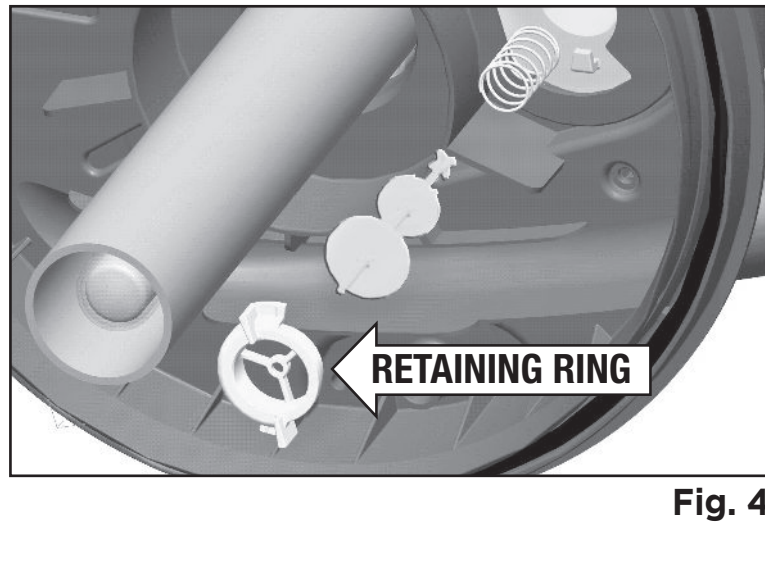
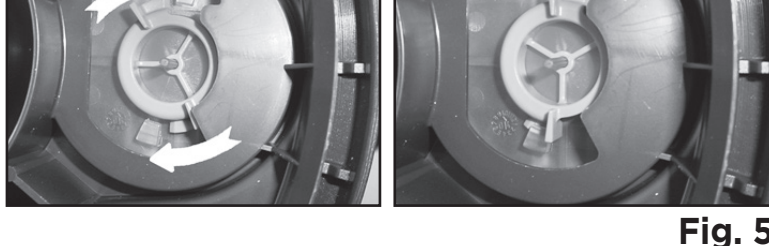

Fig. 4
Fig. 5
1. Switch off the UVC bulb (B) by disconnecting the unit plug from the main power supply.
4. Slowly lift the Cleaning Handles (S) up to their maximum extension above the filter.
5. Remove the safety insert from the metallic lid clamp (O). Unlatch the metallic lid clamp.
6. Remove the Lid (G) by grasping the cleaning handles or by gently levering into the side slots by means of an adequate flat headed screwdriver. **CAUTION:** do not force the guiding rods sideways as this may damage the unit. **CAUTION** - The lid integrates the UVC unit with the bulb and the quartz sleeve, which are made of glass. **HANDLE ALL PARTS WITH CARE!**
7. You now have access to the Foam Filters (M). Remove all of them together by grasping and lifting the internal Foam Support Frame (N).
8. Free the Foam Filters (M) from the Foam Support Frame (N) and rinse with pond water or replace them as required.
9. Rinse the BioLava located in the lower section of the Filter Case (Q) with pond water or replace as required. Pressure-Flo 1200 / 4500 UVC does not have a biological media chamber.
10. Clean the Filter Case (Q) with water, particularly around the top edge where the lid sealing O-ring (P) is seated.
11. If necessary, clean the Cleaning Indicator (U) after disassembling it as follows (the Mode Selector Switch (V) must be set to the "Filtering Mode" position): 1) remove the retaining ring by rotating it counterclockwise, 2) remove the indicator and its spring. Rinse all parts in water and reassemble them with care (**Fig. 4 - Fig. 5**).